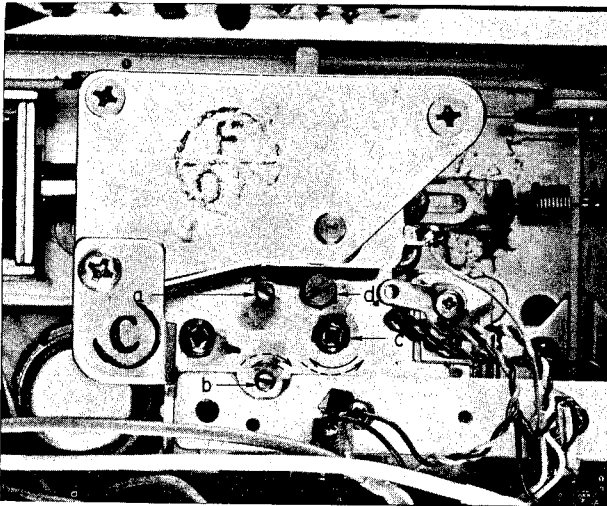

Fig. 8
- 2) Playback Program 3 of an 8,000 Hz pre-recorded Tape and adjust Screw "c" shown in Fig. 8 so that the V.T.V.M. indication is maximum.
- 2) Playback Program 2 of *Test Tape and adjust Screw "d" shown in Fig. 8 so that the V.T.V.M.* indication is minimum.
- 4) The adjustments outlined in items 2) and 3) above will result in ideal head height position and minimize cross-talk.
Turn screws "a" and "b" in the same direction and to the same degree and turn screw "c" in the opposite direction to the same degree. (see Fig. 8) This fine adjustment screw "c" should not be turned more than 10° and should equal the degree to which screws "a" and "b" have been adjusted.